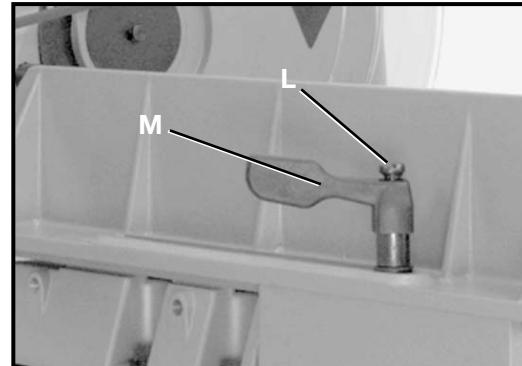

Fig. 7J
9. Position lock handle (M) Fig. 7J, on stud and replace screw and spring (L) that were removed in **STEP 7. NOTE:** Lock handle (M) is spring-loaded and can be repositioned by lifting up on handle.